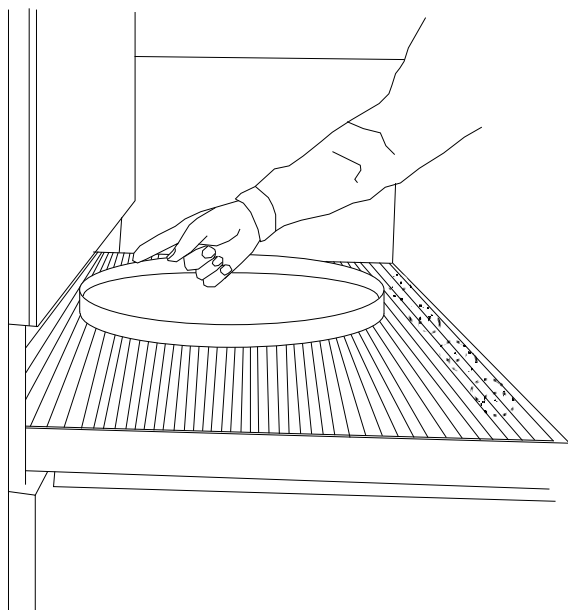

Figure 3-4. Product at entrance end of bake chamber- BEGIN TIMING.
#### MEASURING CONVEYOR SPEED. Refer to Figure 3-4 & 3-5.
**NOTE:** In Figures 3-4 & 3-5 the oven shown has the conveyor running right to left.